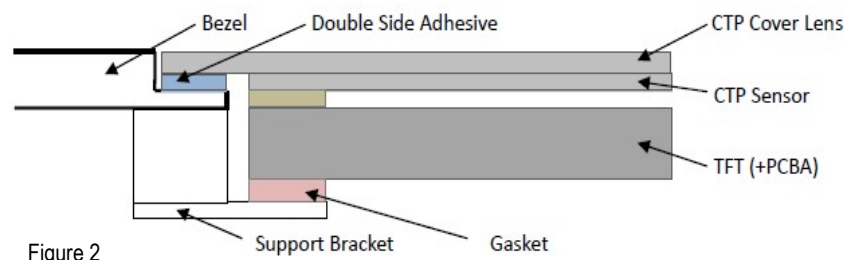

Figure 2
10.2 Surface Mounting (Figure 2)
10.2 嵌入安装（附图 2）